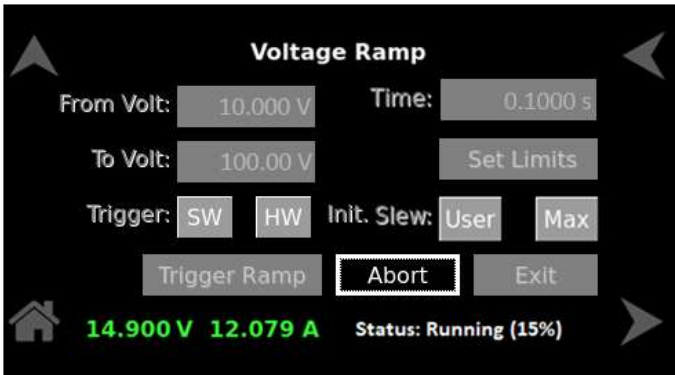

Figure 9-63. Status – Running
- d) **Running:** When the system is executing the trigger ramp process, refer to Figure 9-63.